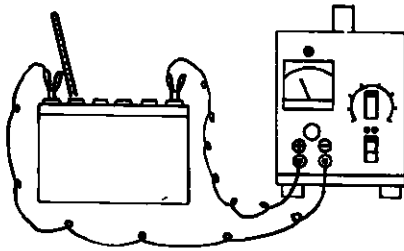

Fig. 4
- 5) If, during charging, the battery temperature looks like exceeding 115° F (45°C), temporarily suspend the charge or reduce the current to 1/2 to prevent the temperature rising. (Fig. 4)